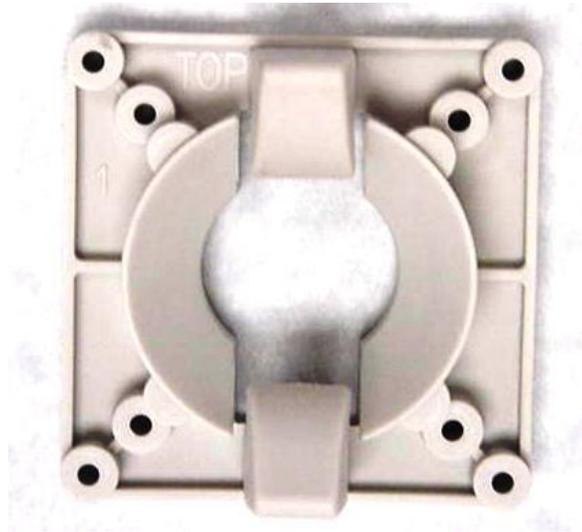
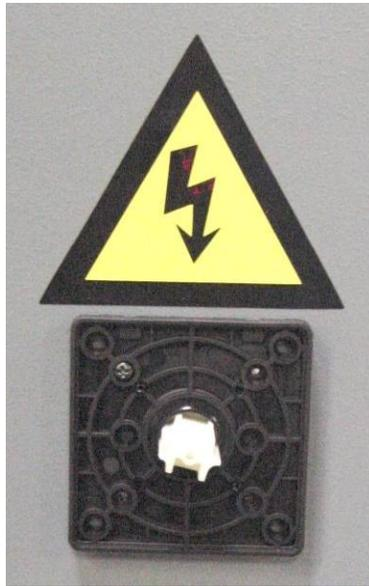

Figure 8 - Inner Mounting Plate
Figure 9 - Backing Plate (Gasket not shown under Backing Plate)
2. Remove two (2) screws (blue arrows) allowing “On-Off” lock-out housing to be separated from backing plate.
3. Remove four (4) screws (white arrows) allowing disassembly of backing plate, gasket and inner mounting plate.
4. Sandwich the control box door between the inner mounting plate on the inside of the control box door (Figure 8) and the backing plate with gasket on the outside of the door (Figure 9). Both have stamped labels indicating “top” to insure correct alignment.